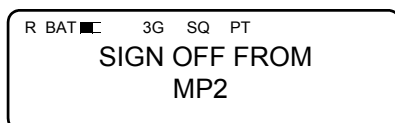

Figure 3-25. Link Termination Pop-up Message
- l. If the initiator of a net call terminates the link, the link for all radios connected in the link will terminate. The Terminating Screen will be displayed momentarily on all radios that were linked in the net. If any non-initiating radio in the net link decides to terminate its link, Step i and Step j apply. All radios still active in the link will receive a pop-up message indicating that the radio has signed off. See Figure 3-25.